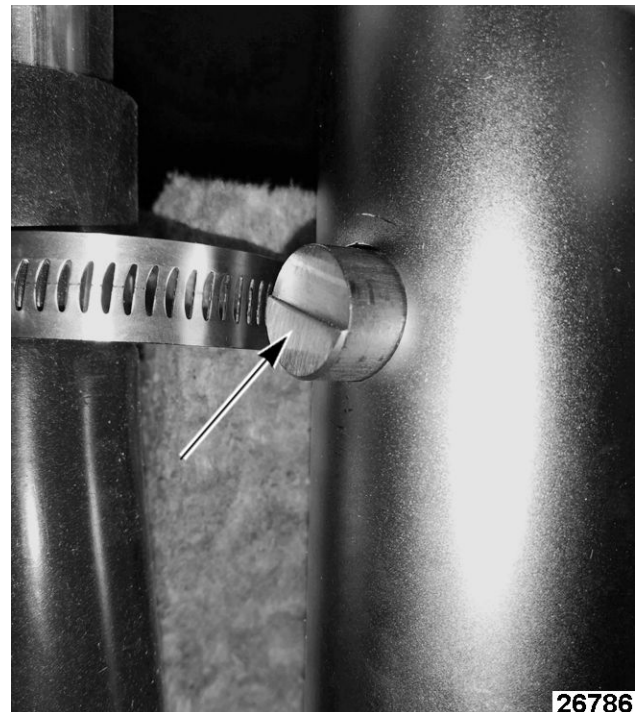

Fig. 106
3. Rotate damper camshaft (using a pair of channel locks) until indicator on the end of the camshaft is at diagonal (Fig. 106).